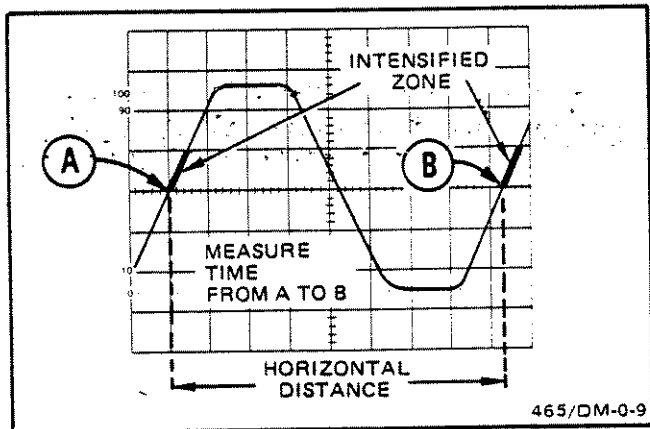

Figure 25. Time duration.
2. For the most accurate measurement, set the B TIME/DIV switch to the fastest sweep that provides a usable (visible) intensified zone. Vertically position the A Sweep display to place the time measurement points on the center horizontal graticule line (see Figure 25).
3. Use the DELAY TIME POSITION control to move the start of the intensified zone so that it just touches the intersection of the signal and the center horizontal graticule line (see Figure 25, Point A).
5. Use the DELAY TIME POSITION control to move the start of the intensified zone to the second time measurement point (see Figure 25, Point B).
EXAMPLE: The DELAY TIME POSITION dial setting at Point A is 1.20 and the DELAY TIME POSITION dial setting at Point B is 9.53 with A TIME/DIV switch set to 2 ms (see Figure 25).
EXAMPLE: The time duration of one event (Point A to Point B, Figure 25) is 16.66 milliseconds.